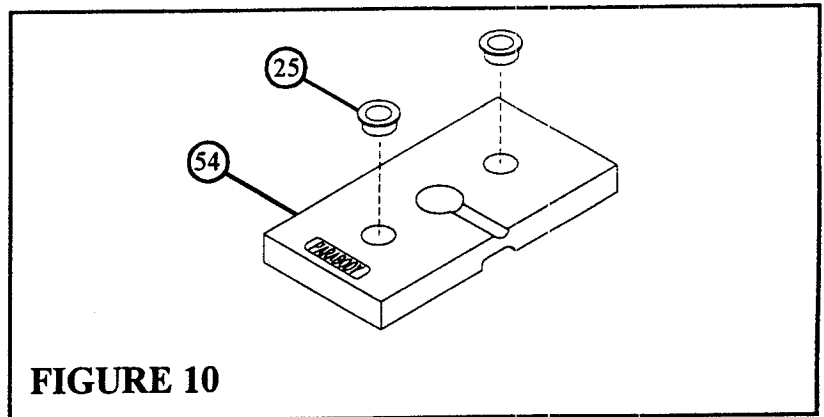

FIGURE 10
- Snap two WEIGHT PLATE BUSHINGS (25) into the "PARABODY" side of all twenty WEIGHT PLATES (54) as shown in FIGURE 10.